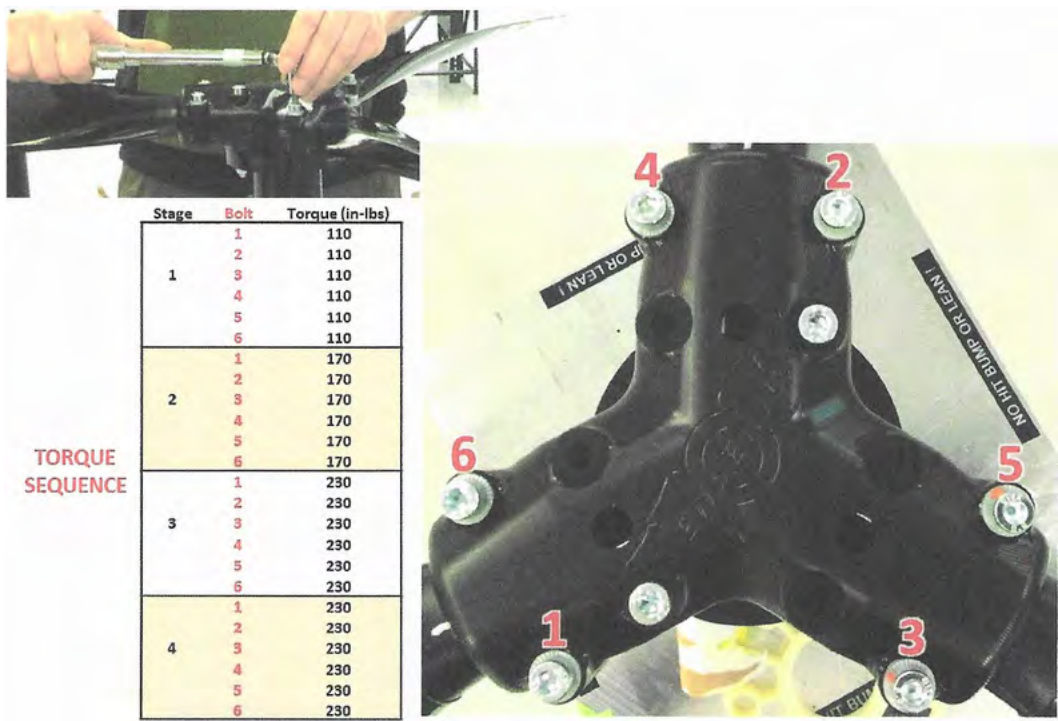

FIGURE 17-70
13. Torque 6x fasteners according to the sequence. Measure pitch angle of each blade periodically throughout the sequence to ensure it stays between 19.2°-19.6°. See Figure 17-70.